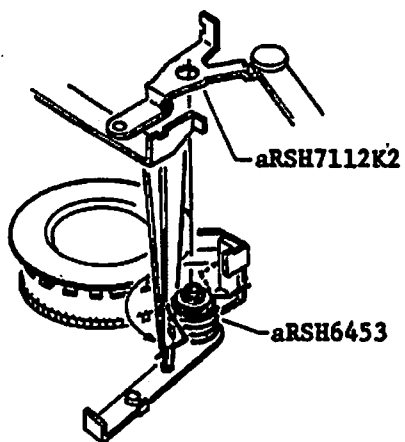

Fig. 117
- (1) Keep Spring (aRSH6453) wound for $\frac{1}{2}$ turn with a tweezer. (Fig. 117)
- (2) Attach Charging lever and hook the spring on the lever as shown in Fig. 117 and 118.